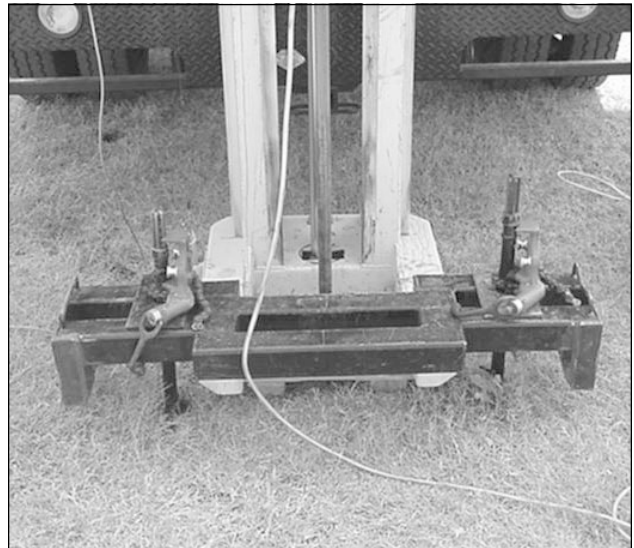

Figure 5.1
11. If pushing only, position the anchoring bridge over the foot of the machine such that the anchors extend through the holes in the bridge (fig. 5.1). Install a chain vise at each anchor to secure the bridge.